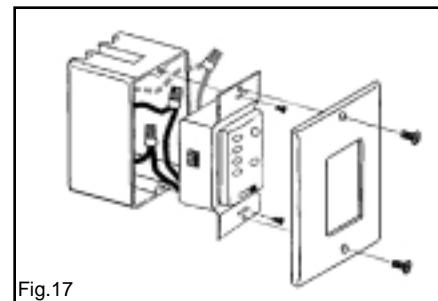

Fig.17
**Step 3.** Carefully tuck the wire connections inside the outlet box. Use the screws provided to secure the wall transmitter and wall plate to the outlet box. (Fig. 17)
keyholes. While holding the Canopy in place with one hand, slide the Canopy Cover over the screw heads and rotate until snug. (Fig. 17)